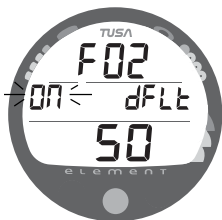

Fig. 23 - SET FO2 DEFAULT
- After having set and accepted the PO2 Alarm Set Point, the Set FO2 50% Default screen appears with the Set Point flashing (Fig. 23).